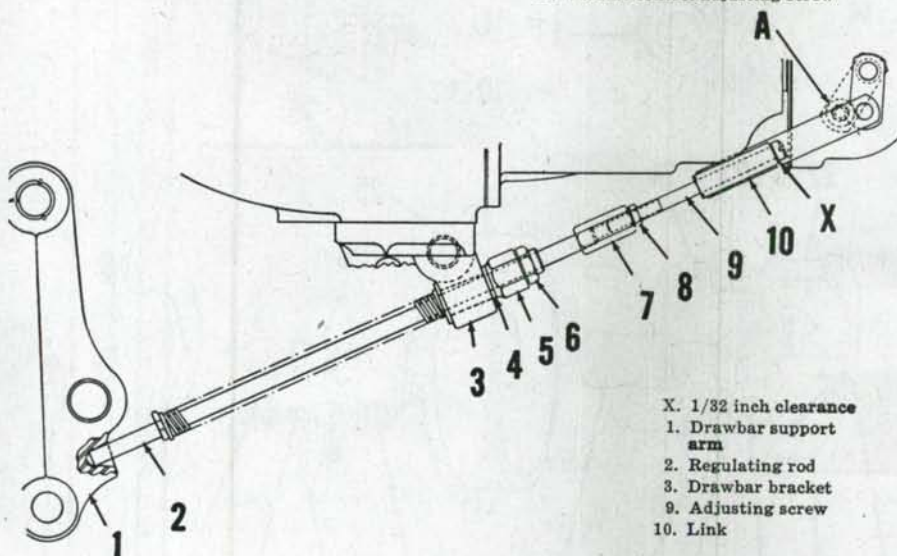

Fig. AC178—Model CA hydraulic system drawbar linkage. Refer to paragraph 331 for adjustment procedure.
331. **DRAWBAR LINKAGE.** This linkage, Fig. AC178, is correctly adjusted when with zero load on the drawbar and drawbar clamp loose there is no clearance at (4) and 1/32 inch clearance at (X) when hand control lever is in raised position.